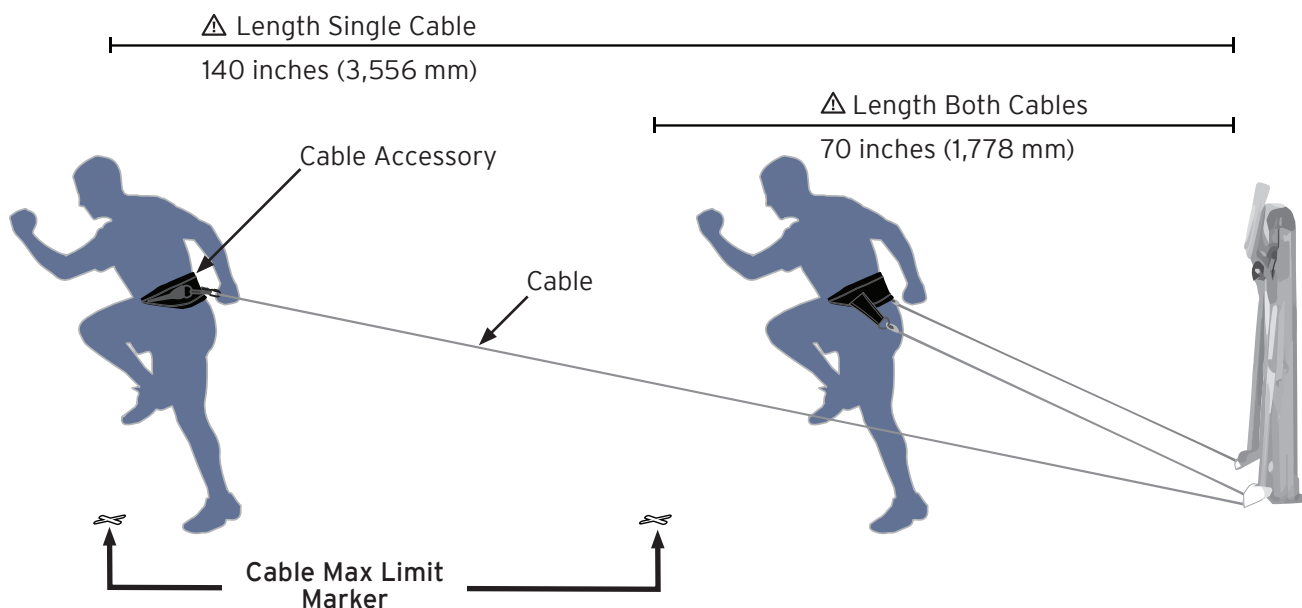

Figure 2. Maximum Cable Length Extension Illustration
2. **Mark your Cable Max Limit:** Secure your Cable Accessory to the Cable. Walk your Cable Accessory out until the stop is reached. This is your Cable Max Limit. Place a marker on the floor (i.e. tape, keys, or a water bottle) to indicate your Cable Max Limit (see Figure 2).